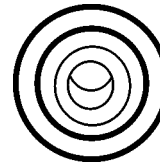

Figure 30. Pre-Heat Lamp
4. Depending on the temperature of the coolant (cold weather conditions), the pre-heat lamp (Figure 30) will light (**ON**) and remain on until the pre-heating cycle has been completed. After completion of the pre-heating cycle, the light will go **OFF** and the engine will start up automatically.